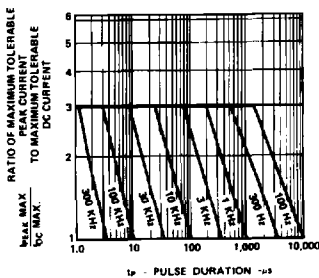

Figure 5. Maximum Tolerable Peak Current vs. Pulse Duration. ( $I_{DC}$  MAX as per MAX Ratings).
1. See Figure 5 (Red), 10 (Yellow), or 15 (Green) to establish pulsed operating conditions.